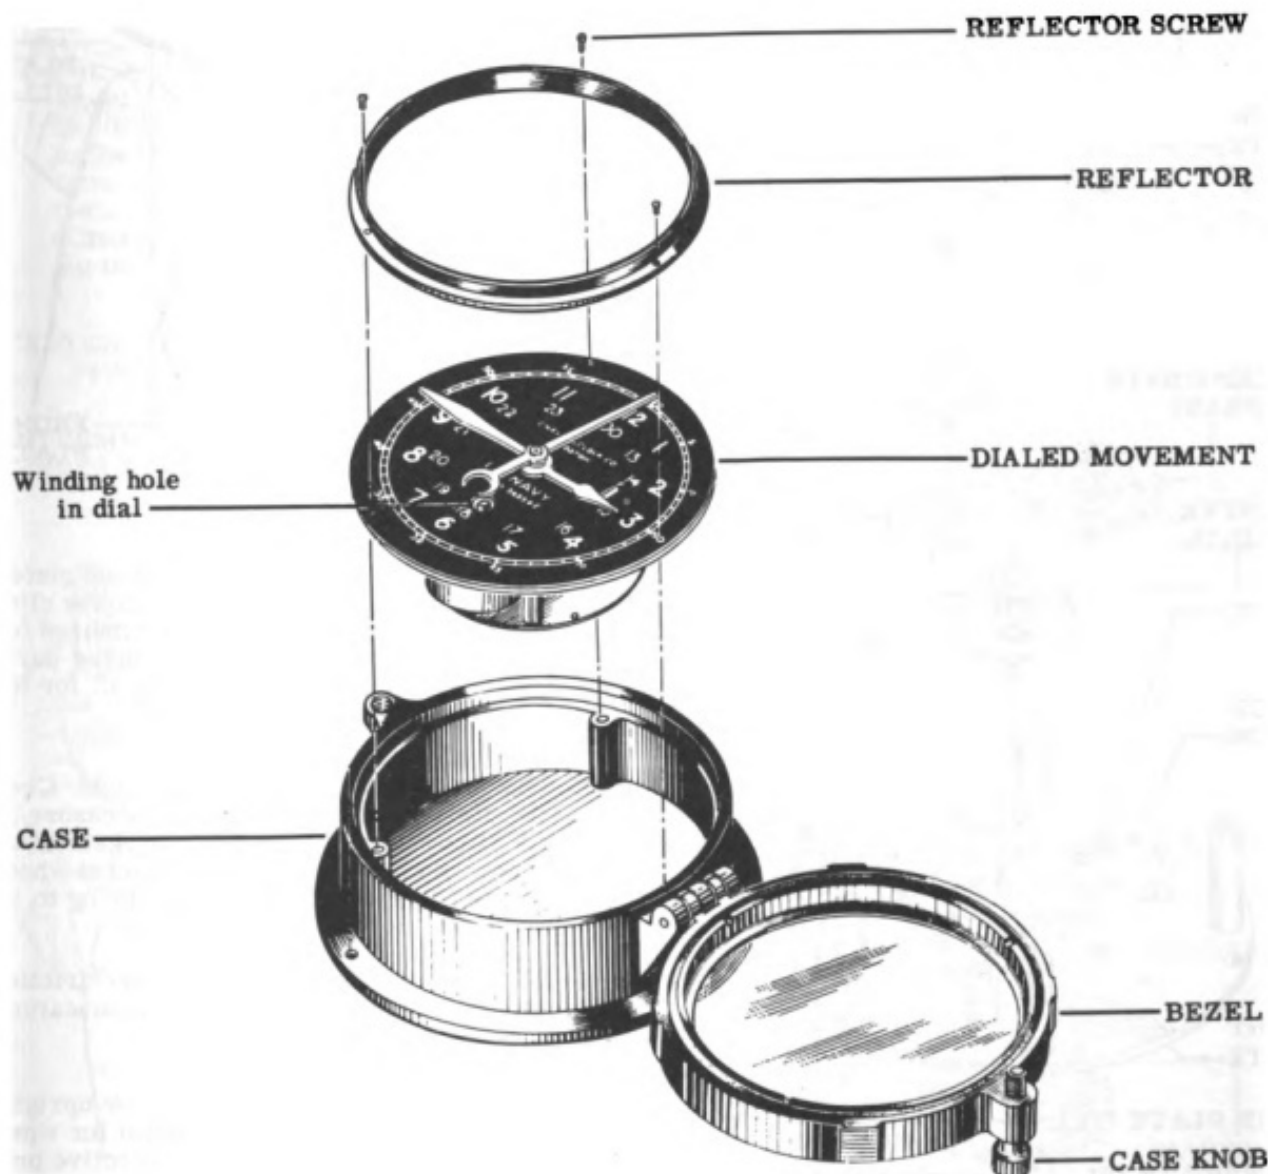

Figure 72
4. To put the dialed movement back into the case, refer to Fig. 72 for the proper positions of the parts involved. Place a winding key or a letdown key through the dial winding hole and over the squared end of the barrel arbor. With a tilting and lifting motion of the hand holding the key, most of the weight of the dialed movement can be supported by the key. With the other hand supporting the rim of the dial, place the